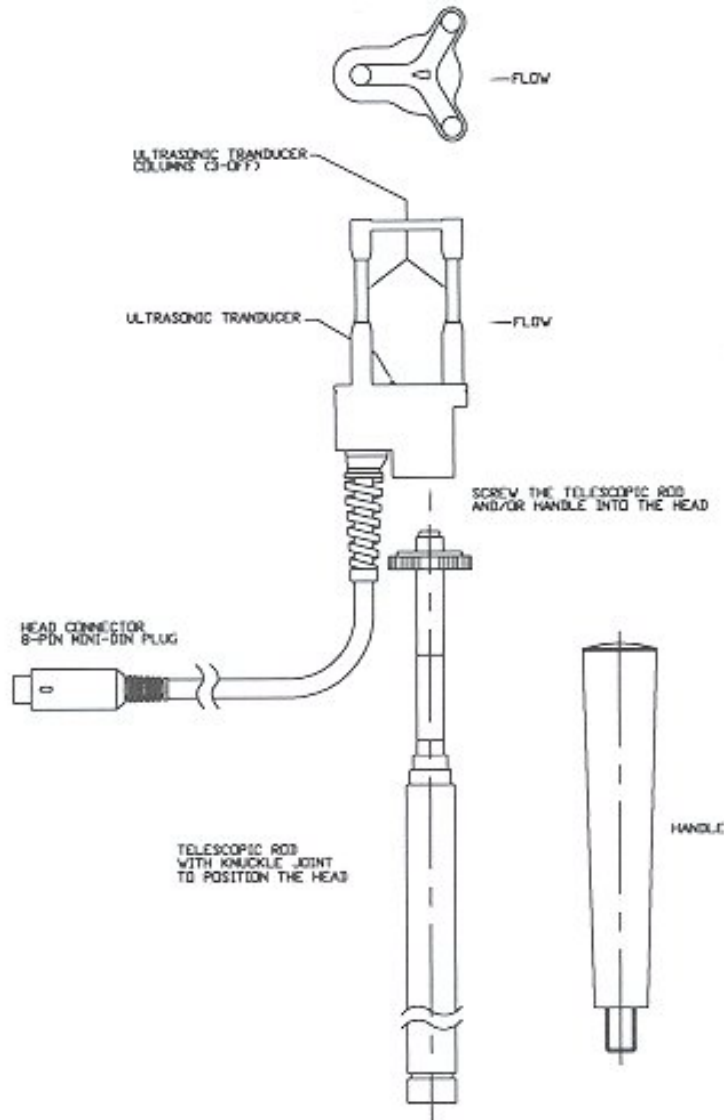

Fig.3 – Ultrasonic head
3.2 ULTRASONIC HEAD (refer to diagram Fig 3).